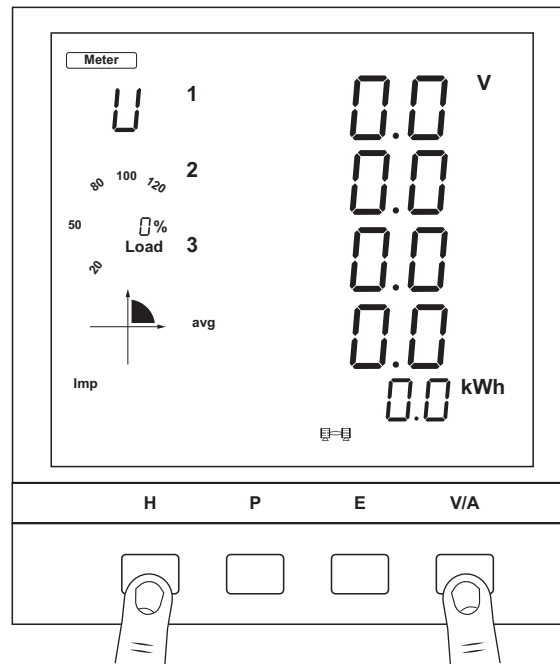

Figure 4: Entering setting mode
1. While the meter is in Meter mode, to enter Setting mode, press the **H** and **V/A** keys simultaneously for about one second, then release; the mode selection screen will be activated. The screen should become blank, and the Meter icon will be flashing. See Figure 4.